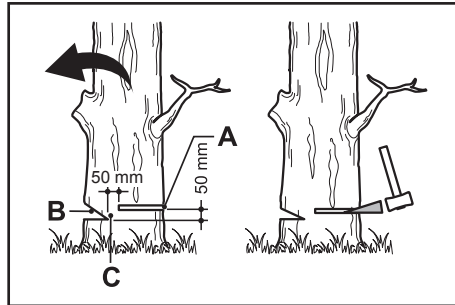

Fig. 9b
Make the notch (Fig. 9b, B) 1/3 the diameter of the tree, perpendicular to the direction of fall (Fig. 9b). Make the lower horizontal notching cut first. This will help to avoid pinching either the saw chain or the guide bar when the second notch is being made.
1. Make the felling back cut (Fig. 9b, A) at least 50 mm higher than the horizontal notching cut (Fig. 9b). Keep the felling back cut parallel to the horizontal notching cut. Make the felling back cut so enough wood is left to act as a hinge. The hinge (Fig. 9b, C) wood keeps the tree from twisting and falling in the wrong direction. Do not cut through the hinge.